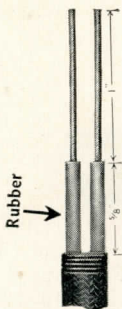

Fig. 1
2. Cut off worn part of cord and repair end as in Fig. 1. Rebind securely. Either re-use wire ring or bind with thread. Twist each conductor tightly, using care not to cut any copper strands.